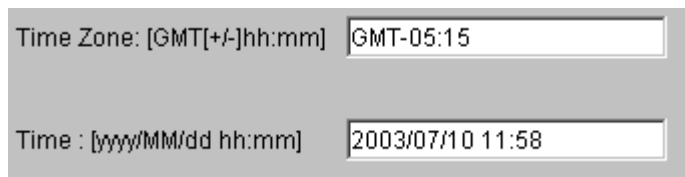

Figure 6-15: Change Time
- ◆ **Time:** Allows you to select the Time Zone and to input the current time in your area. See *Figure 6-15*.